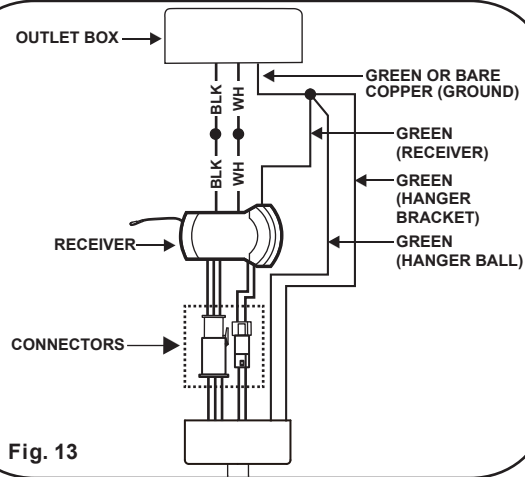

Fig. 13
Step 2. Motor to Receiver Electrical Connections: Be sure to snap together the 2-PIN connectors, and the 4-PIN connectors from the receiver and fan. (Fig. 13)
Step 3. Receiver to House Supply Wires Electrical Connections: Connect the WHITE wire (Neutral) from the outlet box to the WHITE wire marked "AC in N" from the receiver. Connect the BLACK wire (Hot) from the outlet box to the BLACK wire marked "AC in L" from the receiver. Secure all wire connections with the plastic wire nuts provided. (Fig. 13)
Step 4. If your outlet box has a GROUND wire (Green or Bare Copper) connect this wire to the Hanger Ball, Hanger Bracket, and Receiver Ground wires. If your outlet box does not have a Ground Wire, then connect the Hanger Ball, Hanger Bracket, and Receiver Ground Wires together. Secure wire connection with the plastic wire nut provided. (Fig. 13)